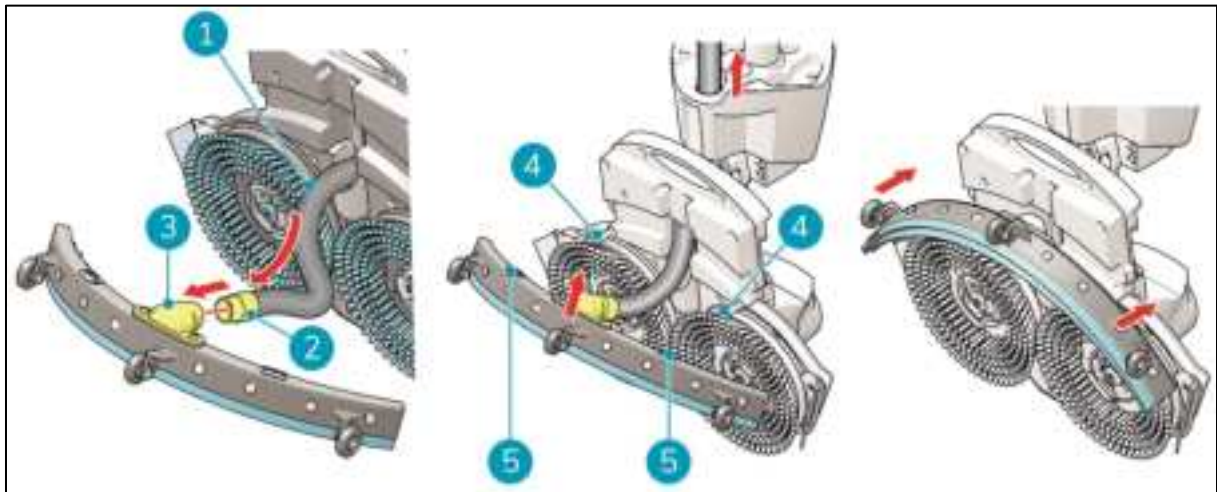

Figure 30
1. Take the vacuum hose (Figure 30, pos 1).
2. Insert the hose connector (Figure 30, pos 2) in the squeegee (Figure 30, pos 3).
3. Twist the hose connector 1/4 turn for a firm fit (Figure 30, pos 2).
6. Align the pins on the scrub deck (Figure 30, pos 4) with the holes on the squeegee (Figure 30, pos 5).